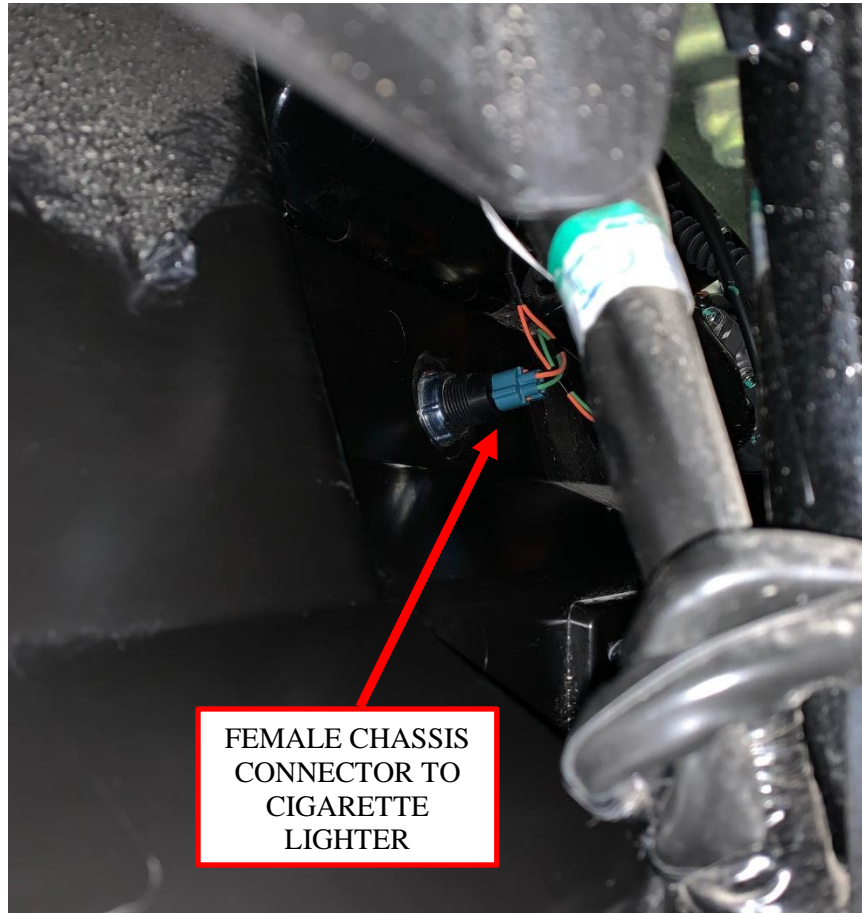

Figure 15: Connection location for chassis harness connectors.
12. The female connector will replace the OEM connector attached to the back of the accessory cigarette lighter as shown in Figure 15. This connection point is accessible through the hood opening under the rubber protector (Figure 15 from wheel well shown for a better view). The male connector on the chassis harness can then be connected to the OEM female connector.